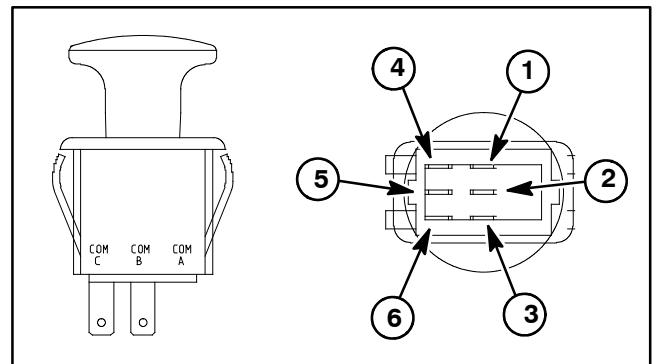

Figure 38
5. The switch terminals are marked as shown in Figure 38. The circuit logic of the PTO switch is shown in the chart below. With the use of a multimeter (ohms setting), the switch functions can be tested to determine whether continuity exists between the various terminals for each switch position. Verify continuity between switch terminals. Replace PTO switch if testing identifies that switch is faulty.